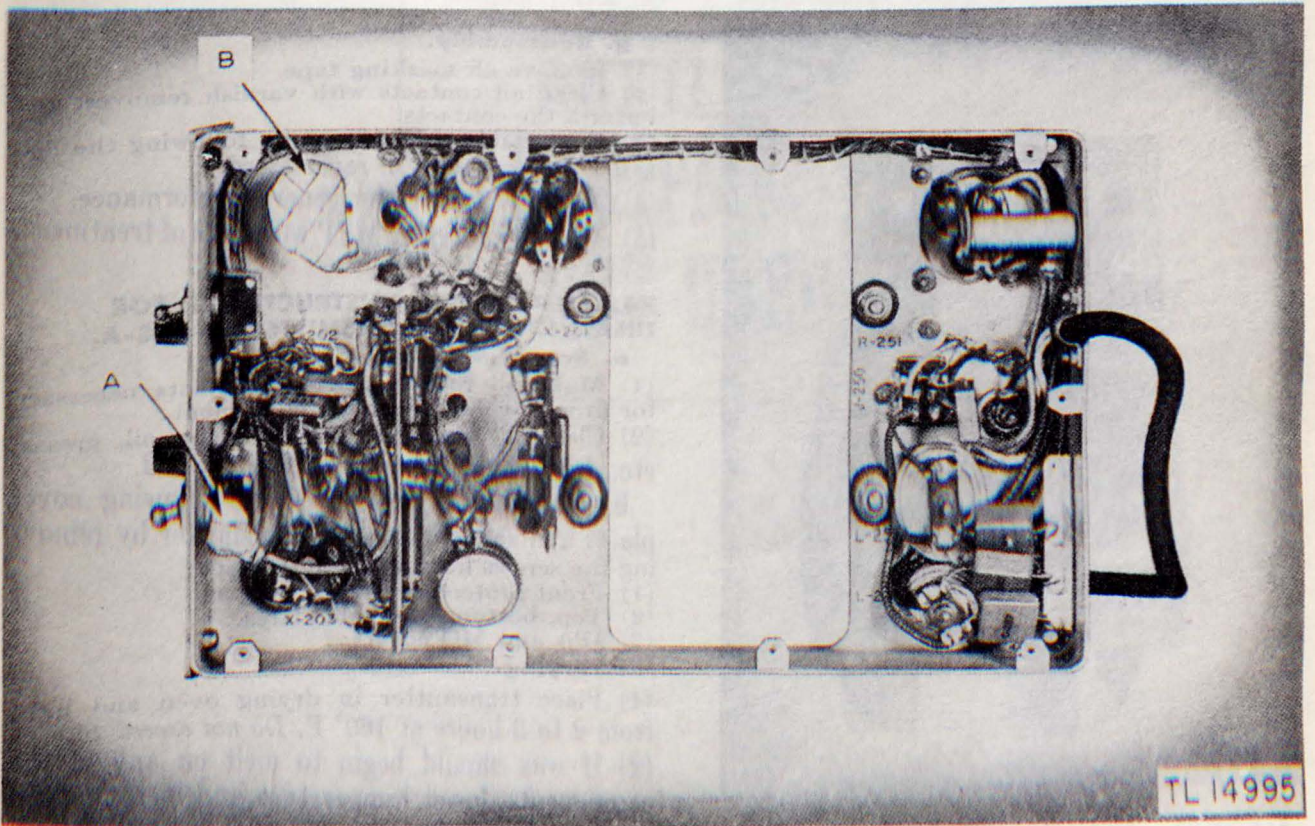

Figure 33. Radio Receiver BC-652-A, bottom view of crystal-frequency calibrator chassis masked for moistureproofing and fungiproofing.
(5) Mask antenna lead terminal, item A, figure 33.
(6) Mask variable capacitor, item B, figure 33.